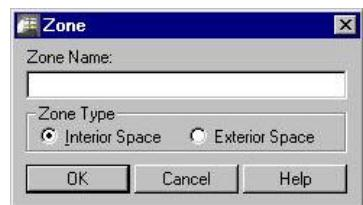

Figure 6. The Zone Properties dialog box.
35. The "Zone Properties" dialog box appears (Figure 6). Enter the name for this zone such as "Z1" and select Interior or Exterior space. Click OK.